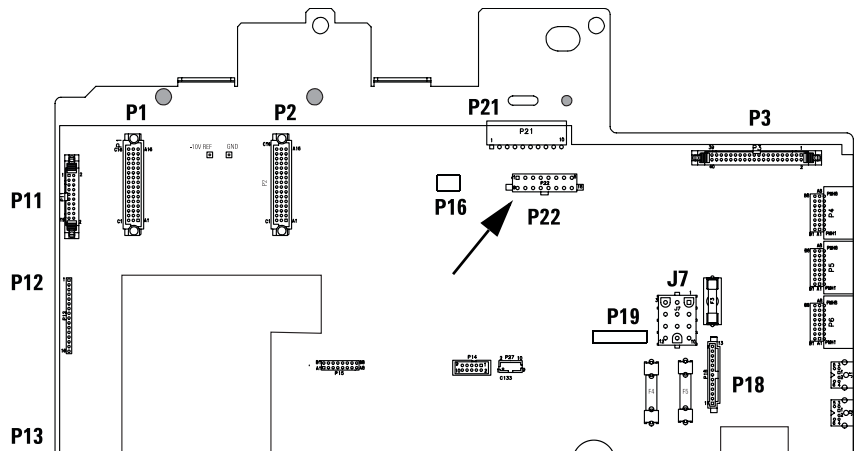
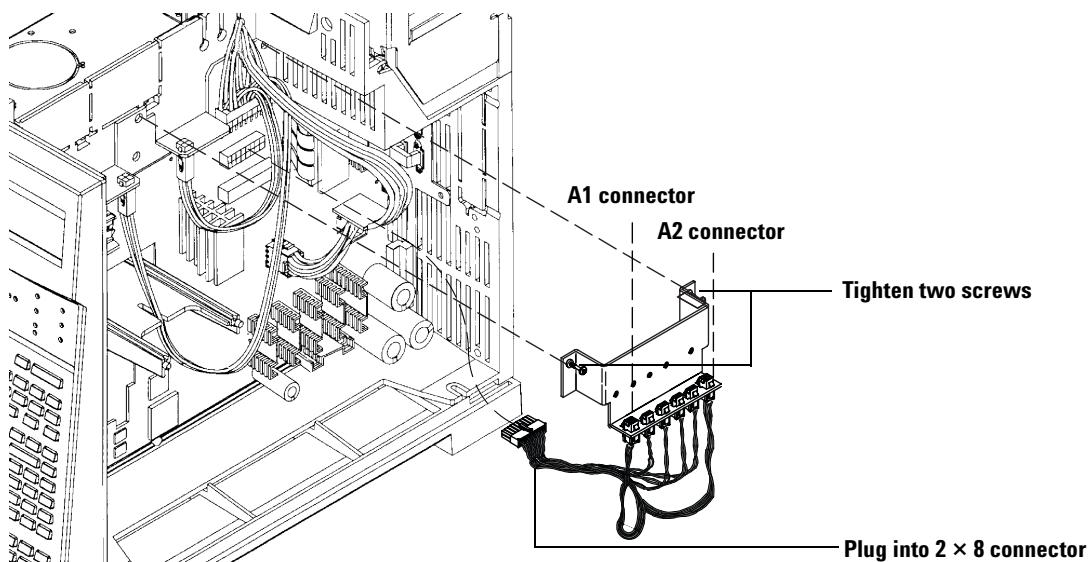

Figure 9 Long heater/sensor cable connector
Figure 11 Attaching the assembly to the GC
- 1 Locate connector P22 on the GC main board (see the arrow in Figure 9).
- 3 Push the wiring harness ends into the auxiliary heater bracket from the bottom as shown in Figure 11. The connectors are labeled.
- 4 Plug the large connector on the wiring harness into the P22 connector on the main board (see Figure 9 and Figure 11).